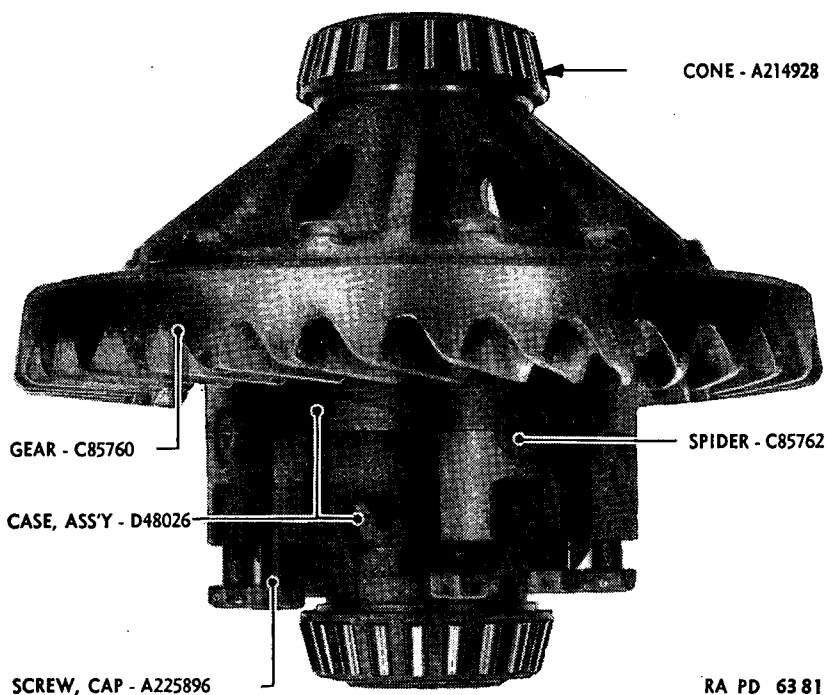

FIGURE 29.--Front axle differential case cap screw removal.
(7) Take out case bolts—wire cutting pliers,  $\frac{1}{16}$ -inch open end wrench. Cut locking wire (A225897) holding case screws (A225896) and remove eight  $\frac{1}{2}$ -inch cap screws (fig. 29).